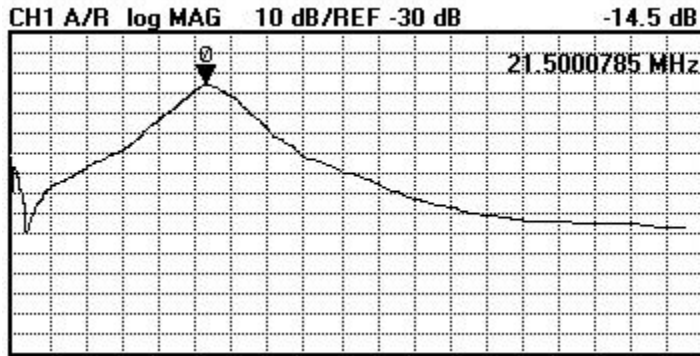

figure 2.
- 3) There should be a peak in the response near 21.5 MHz. Tune L5 until the resonant peak appears at 21.5MHz. (fig. 2)